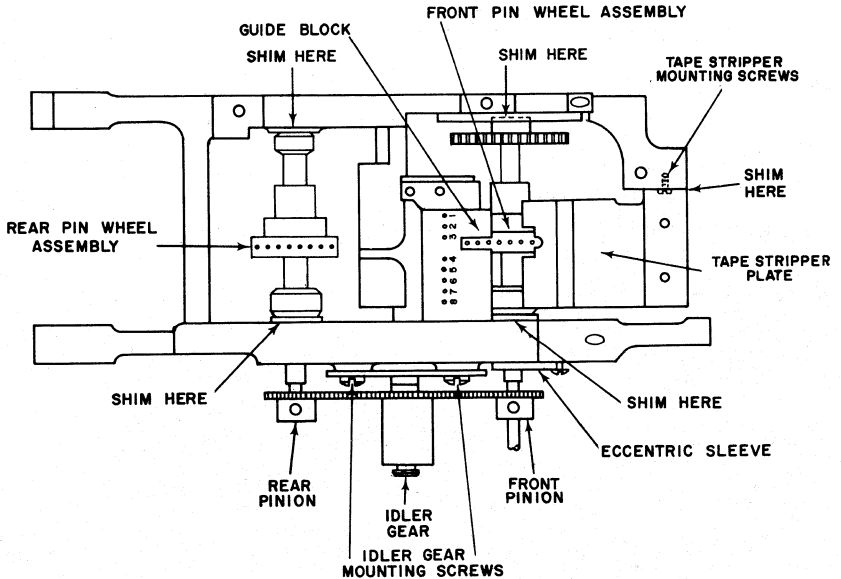

Figure 14
3. Shim the tape stripper plate so that its groove is centered on the pins of the front pin wheel. Adjust it under the mounting screws so it's as close to the pin wheel as possible without touching (Figure 14).